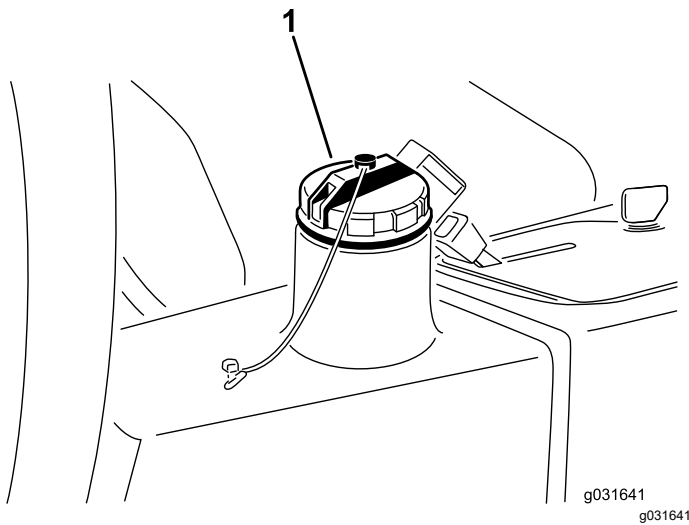

Figure 67
4. Fill the reservoir (Figure 67) with approximately 13.2 L (3.5 US gallons) of hydraulic fluid; refer to Checking the Hydraulic System (page 50).